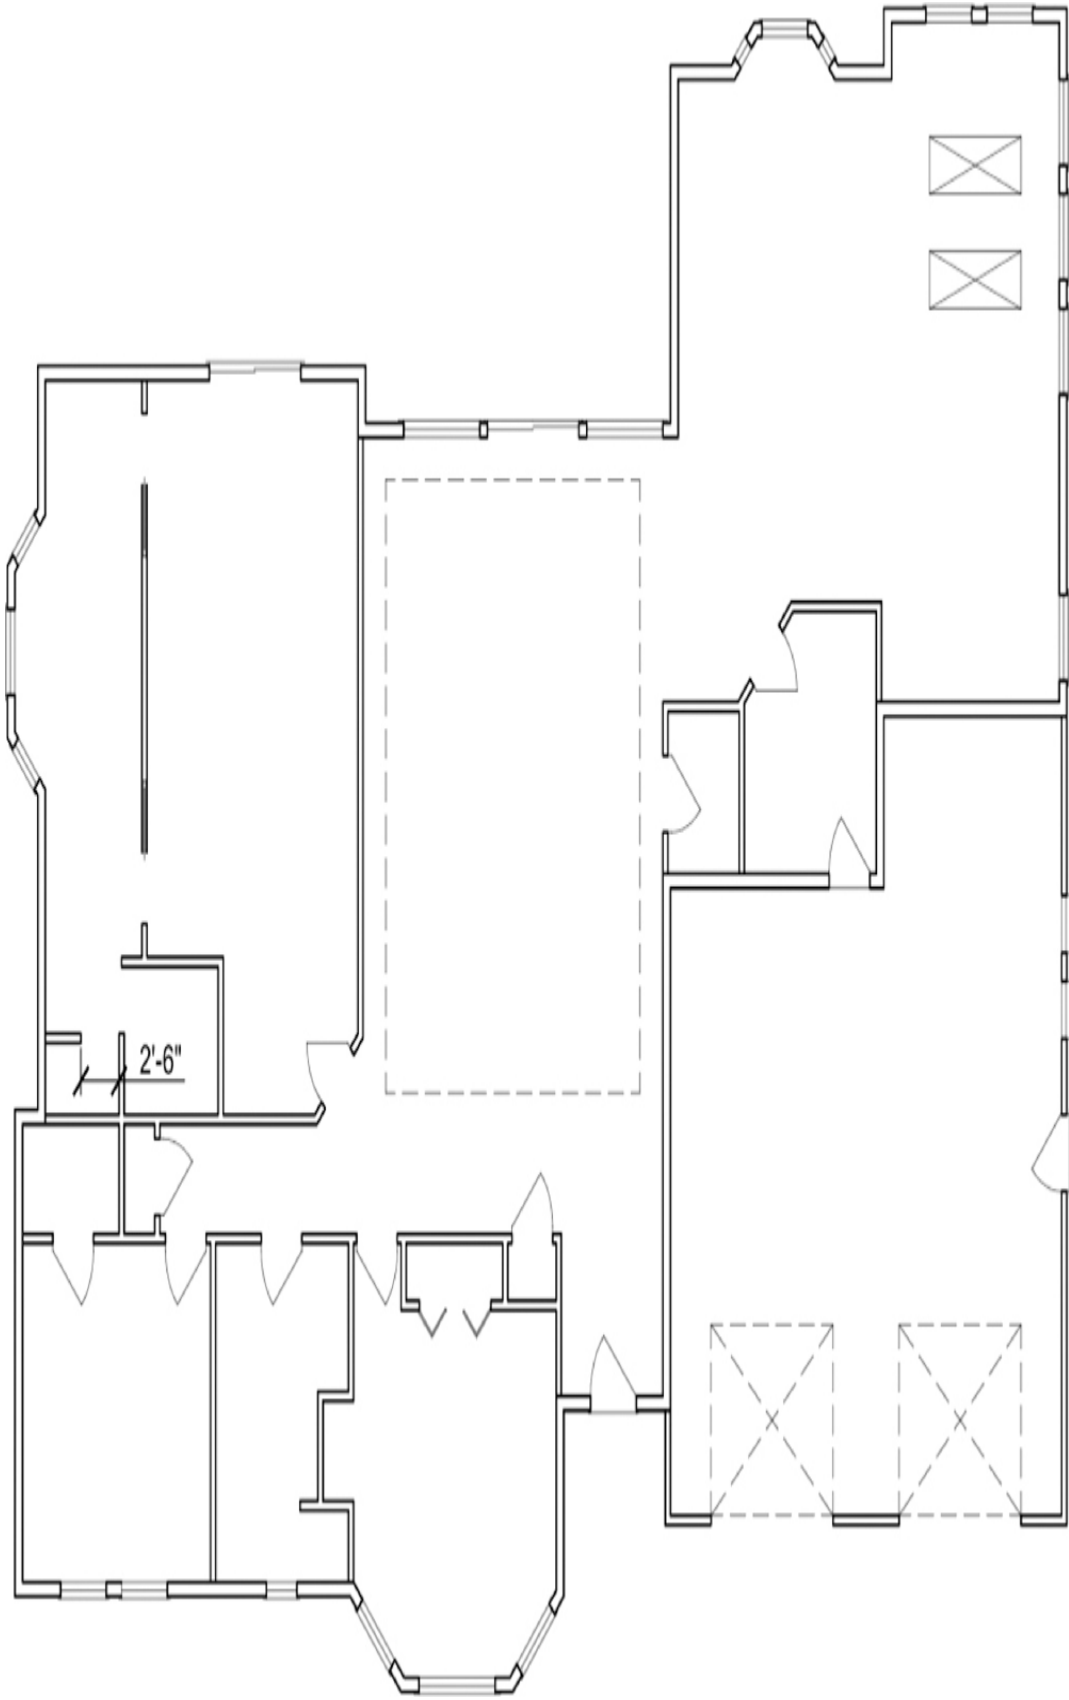

Figure 8-47
2. Modify the floor plan as shown in Figure 8-47. Use the **TRIM**, **EXTEND**, and **FILLET** commands to clean up wall intersections and door/window openings. **Do not** draw dimensions or text.